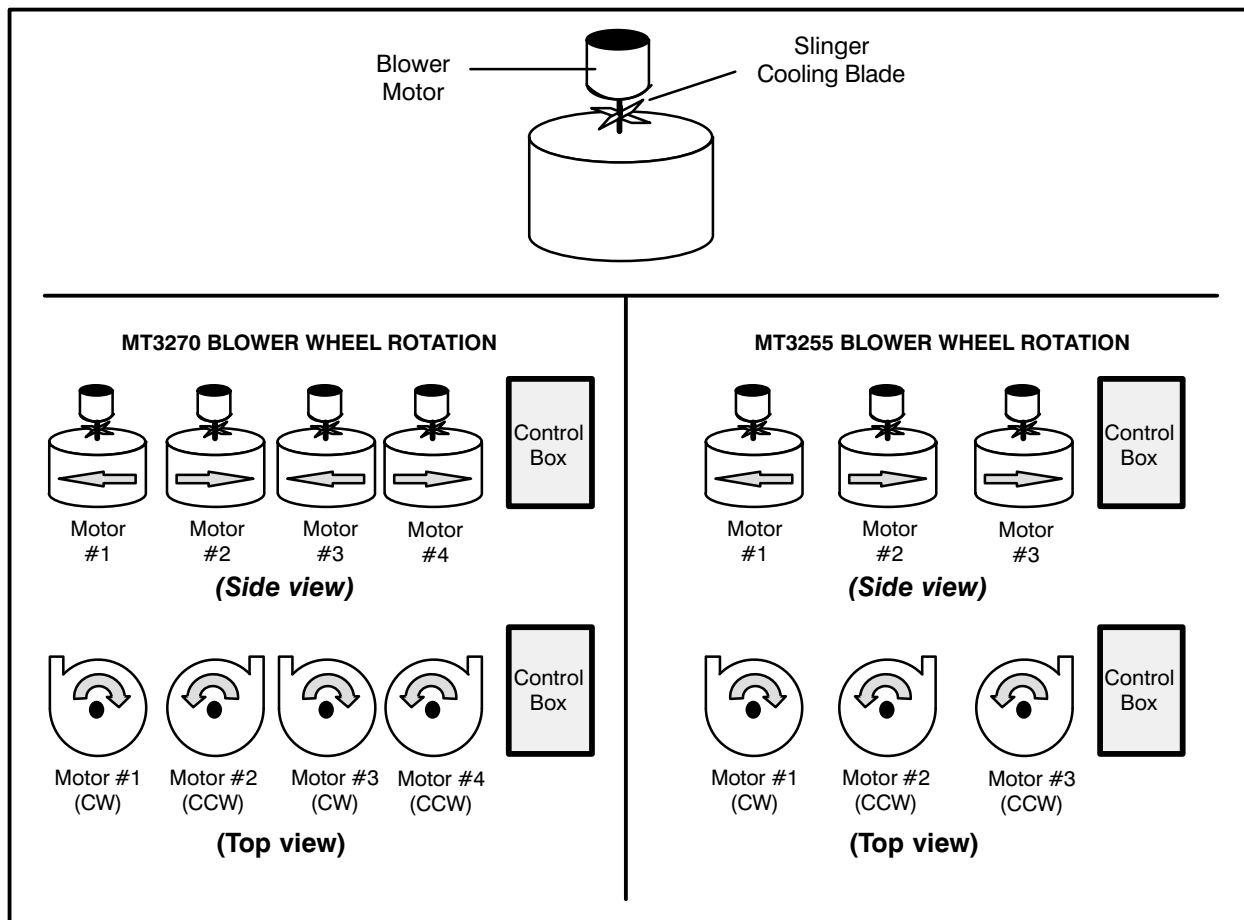

FIGURE 1
1. Remove the back of the oven body and verify proper motor rotation. (See FIGURE 1)
For motor placement, the direction of rotation is viewed left to right from the oven's rear. Typically the motor direction is referenced to the end of the shaft (EOS). However due to the vertical positioning of the motors in Mastertherm ovens, it is more instructive to reference the end of the motor (EOM) as looking from the rear of the oven. In FIGURE 1 all directions are taken from EOM. The correct rotation amperage draw is approximately 1 amp. If the measured amperage is less than .5, check for proper motor rotation direction.